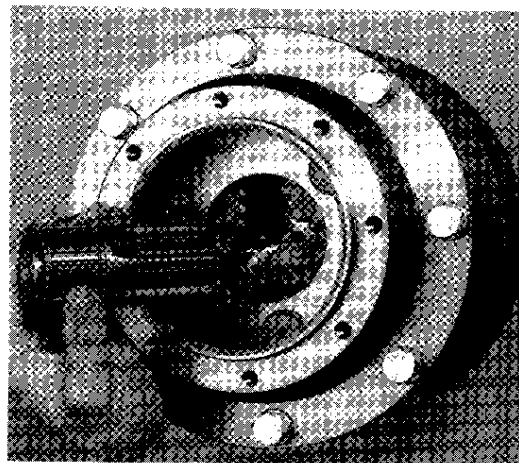

Fig. 12
Turn unit over and support, shaft down. Lubricate intermediate gear and small planet carrier assembly, place gear in mesh with large planet gears (40). (Fig. 12)